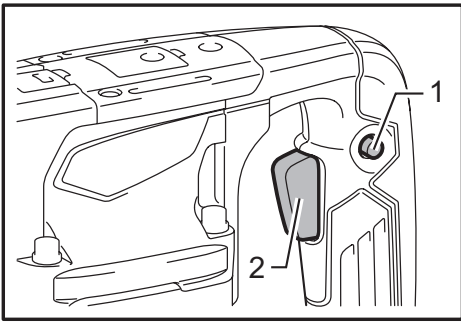

Fig.1
► **Fig.1:** 1. Lock button 2. Switch trigger